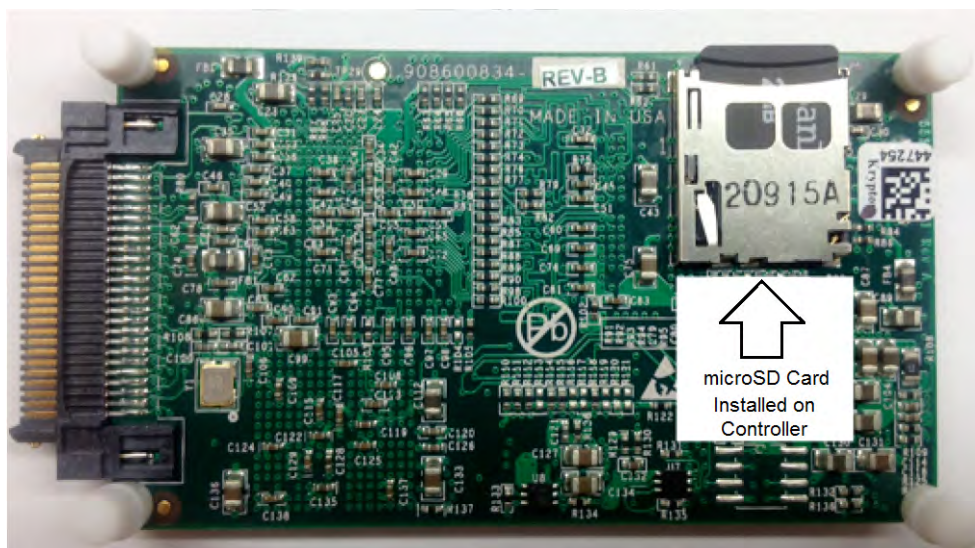
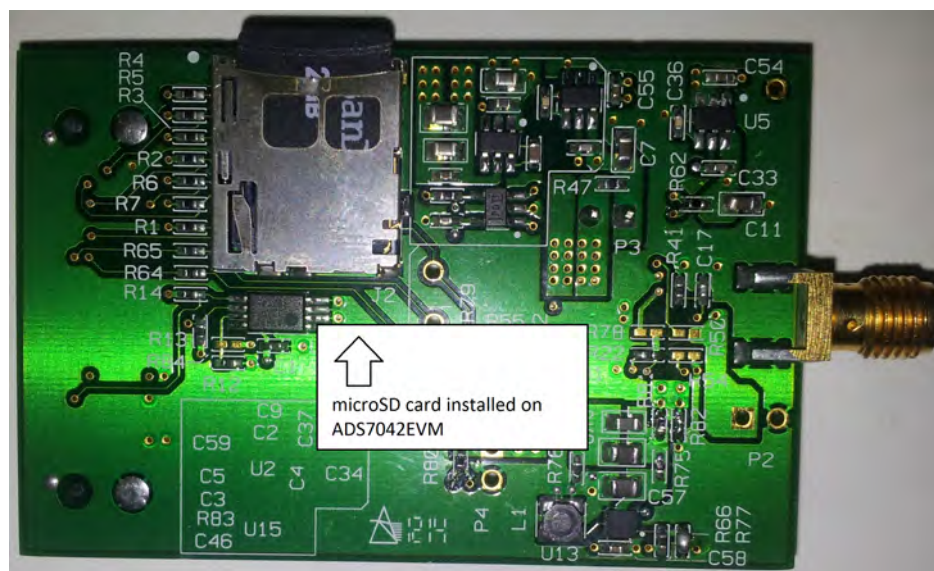

Figure 3. Bottom View of Simple Capture Card with microSD Memory Card Installed
Figure 4. Bottom View of ADS7040EVM Board with microSD Memory Card Installed
As mentioned in the previous section, the ADS7040EVM-PDK includes two microSD memory cards. One is installed on the microSD socket (P6) at the back of the Simple Capture Card as shown in Figure 3. The second microSD memory card is installed on the microSD socket (J2) at the back of the ADS7040EVM as shown in Figure 4.
- Step 2. Verify the microSD card is installed on the back of the Simple Capture Card, as shown in Figure 3.
- Step 3. Verify the microSD card is installed on the back of the EVM board, as shown in Figure 4.